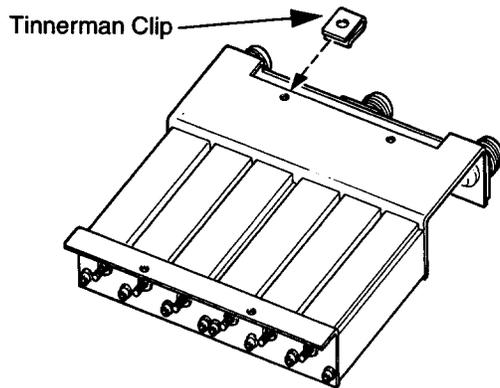

Figure 2-1. Duplexer, Bottom View
2. If the duplexer does not have four mounting holes with Pennnuts, place Tinnerman clips over four of the mounting holes of the duplexer (refer to Figure 2-1 for locations) using needle nose pliers. Ensure that the "threaded" sides of the clips are on the connector and tuning sides of the duplexer.